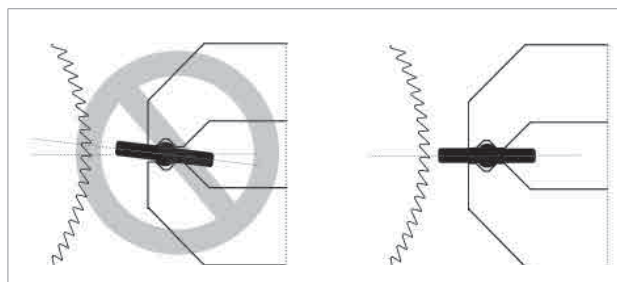
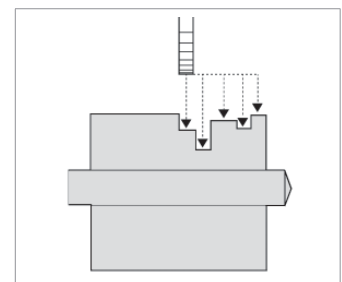

Fig.44
Fig.45
- 1) Use the lever (Q) to lock the right-hand clamp in the horizontal position.
- 2) Fit the keys into the clamps (original key in the left-hand clamp and key blank in the right-hand clamp) with the bit up against the stop (Y).
- 3) Close the clamps making sure that the key shafts are in the V groove and check that the key bits are perpendicular to the tracer point and cutter (Fig.44).
- 4) Lower the lever (Q) to release the right-hand clamp.
- 5) Turn on the machine with the ON/OFF switch (A).
- 6) Use the lever (L) to slowly take the carriage towards the cutter and press the button (B) to start the motor.
- 7) Hold the lever (R) slightly raised with the key facing downwards.
- 8) Take the cut closest to the original key tip against the tracer point and lower the lever (R) to round off the cut.
- 9) Take the carriage back to come out of the cut. Move the carriage sideways and enter the next cut (Fig.45). Do not move sideways once into the cut.